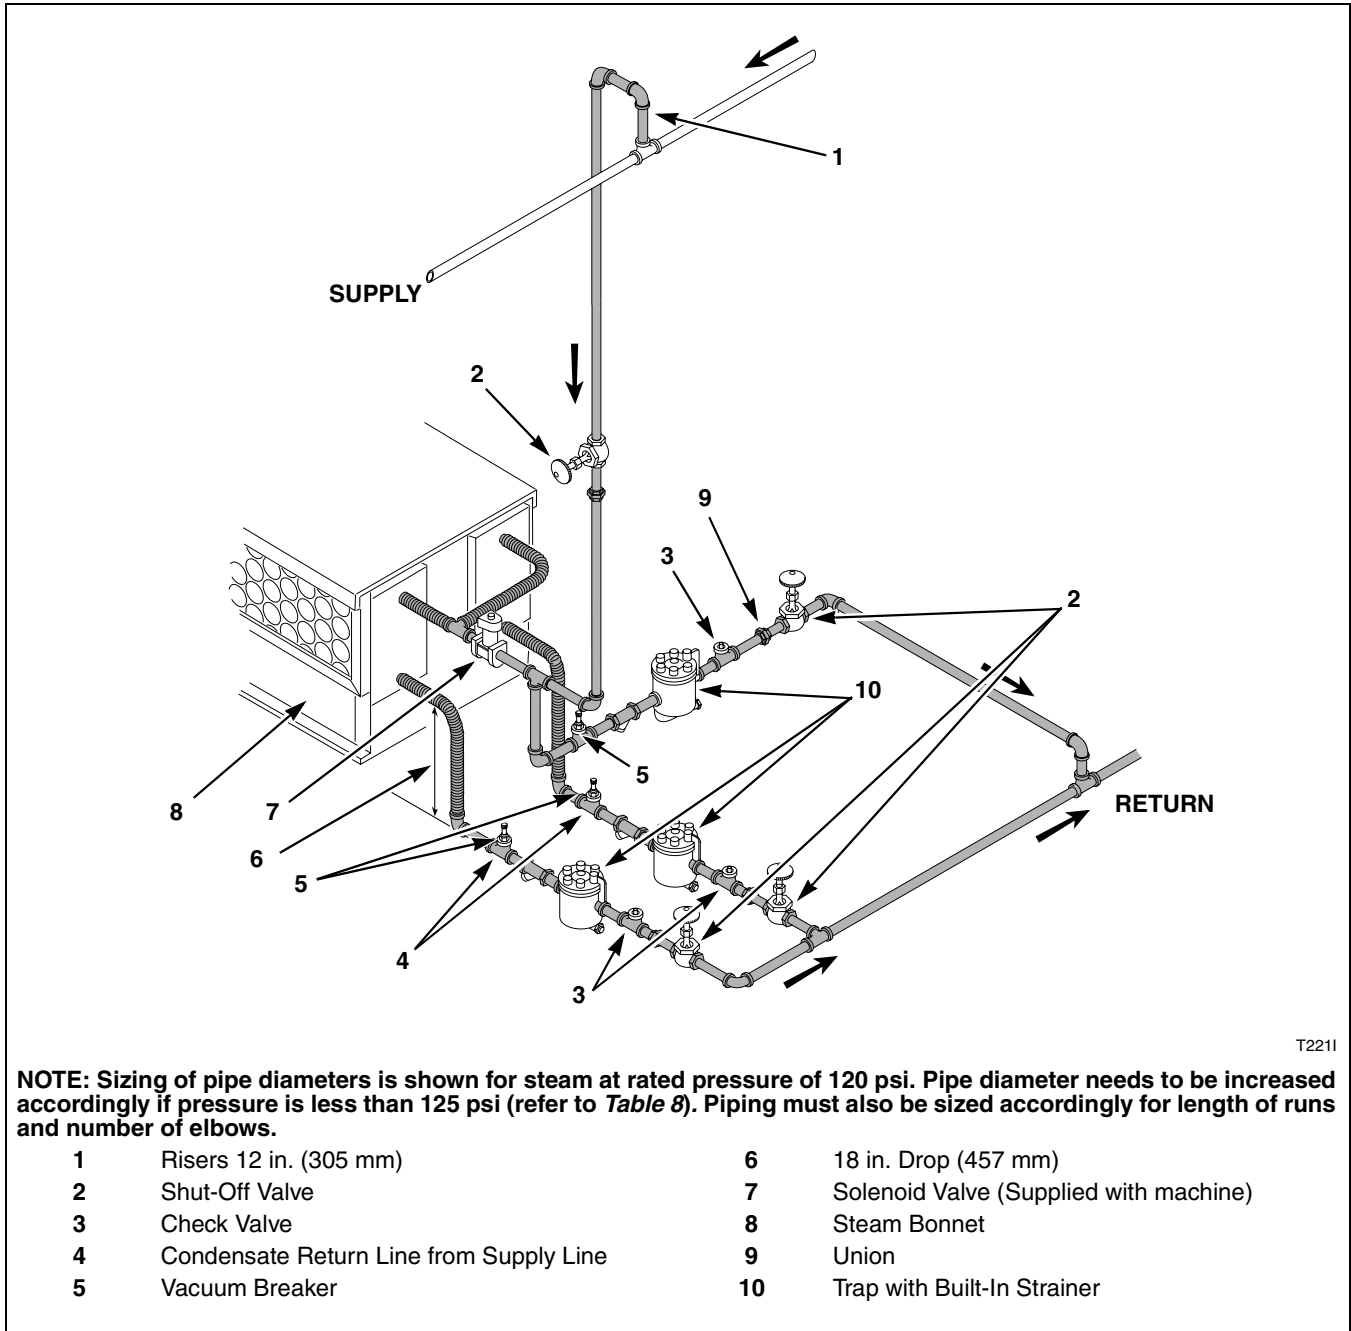
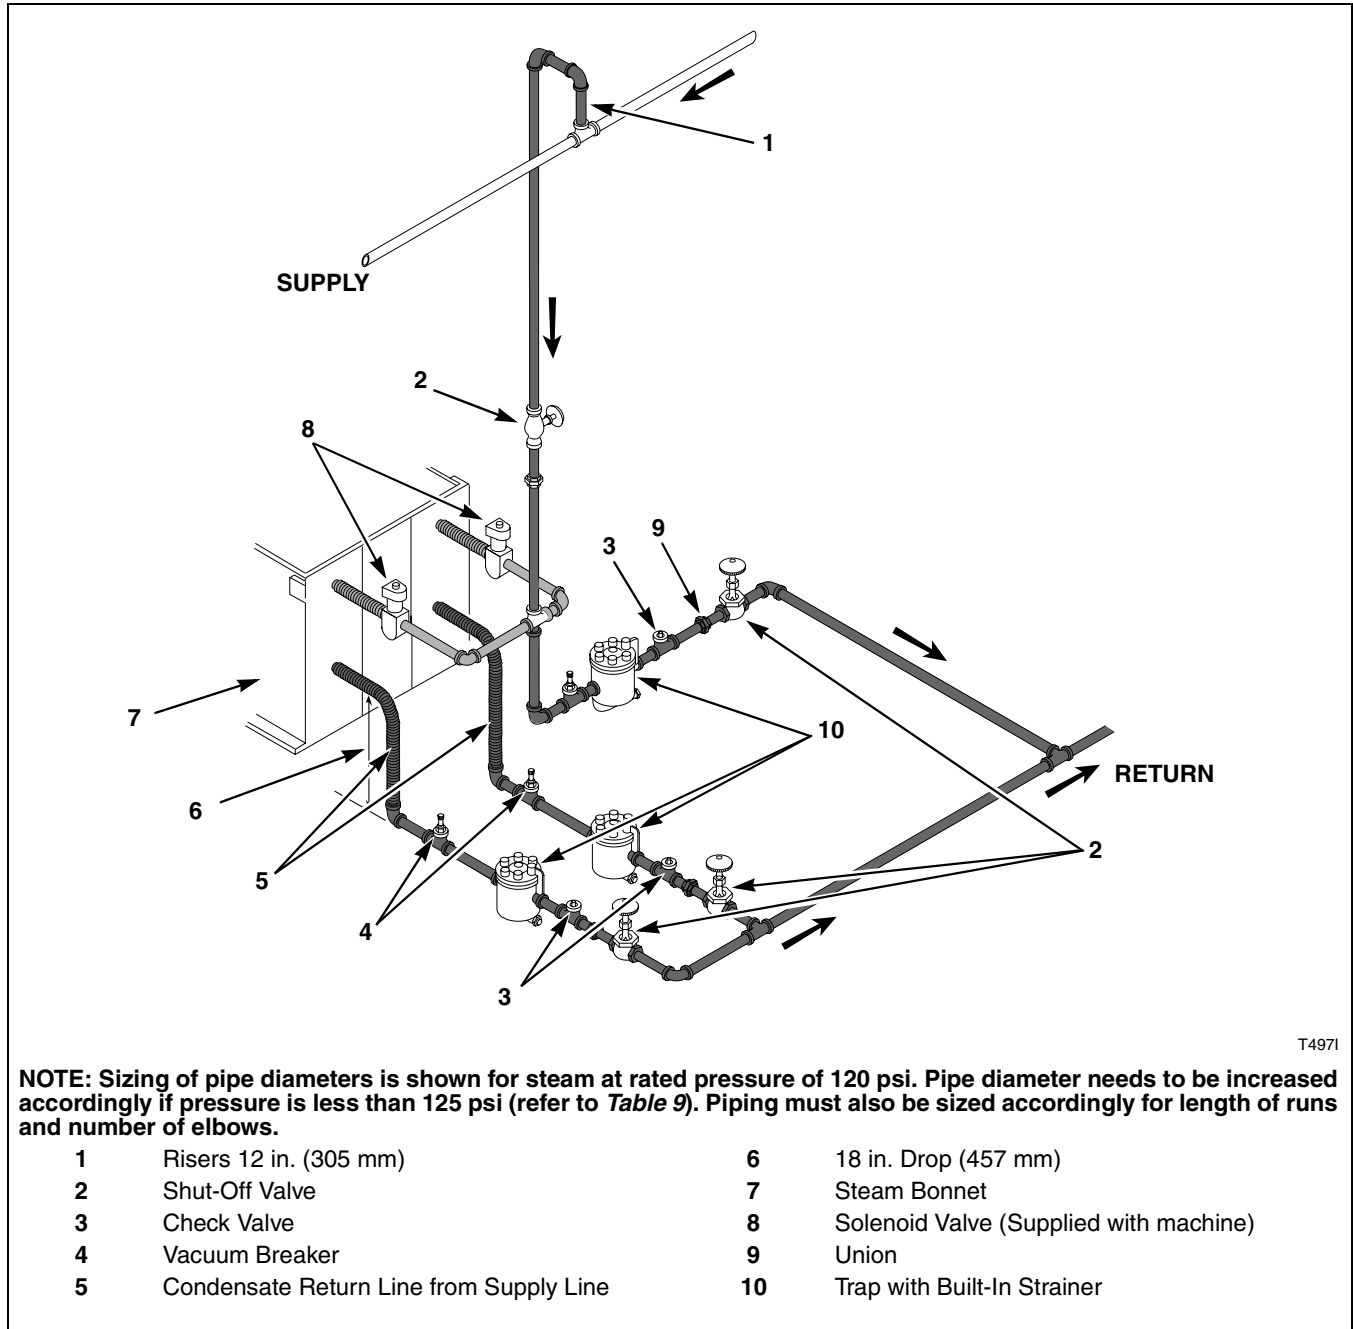

Figure 16
Figure 17
- Refer to *Figure 16* and *Figure 17* for proper steam pipe configurations.
The steam trap must be installed and the coil outlet connections must be connected to the condensate return lines. The following steps outline the procedure for installing the steam trap and connecting the condensate return lines. Refer to *Figure 16* and *Figure 17* for typical installations.